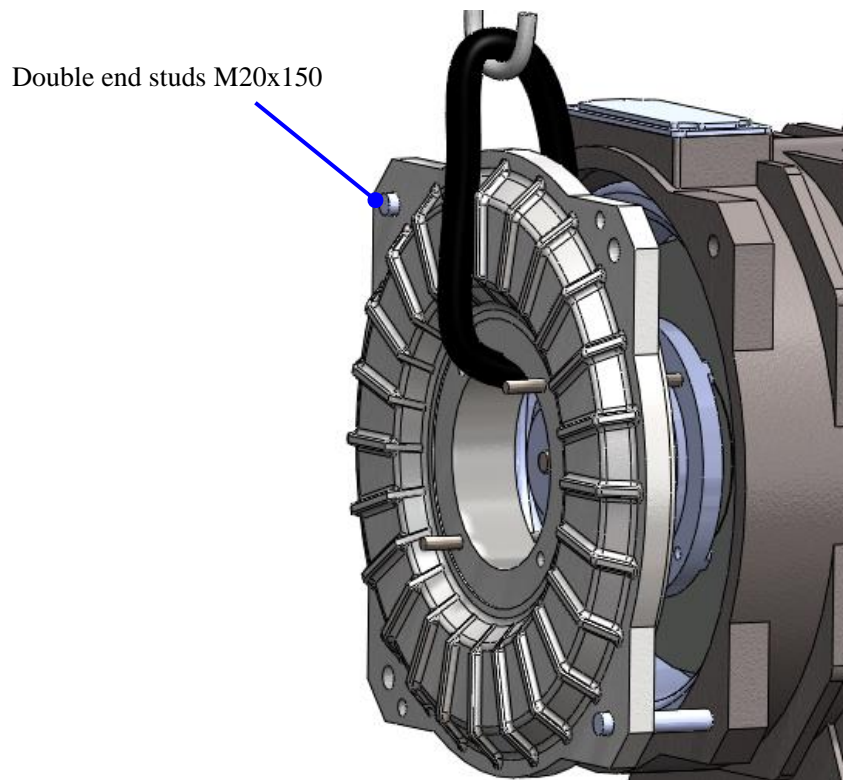

Figure 107: Install Studs and knock into position
6. Use a pair of double end studs M20x150 tightened into the threaded holes in the machine body. Then knock the back cover into position with a rubber hammer. See Figure 107.